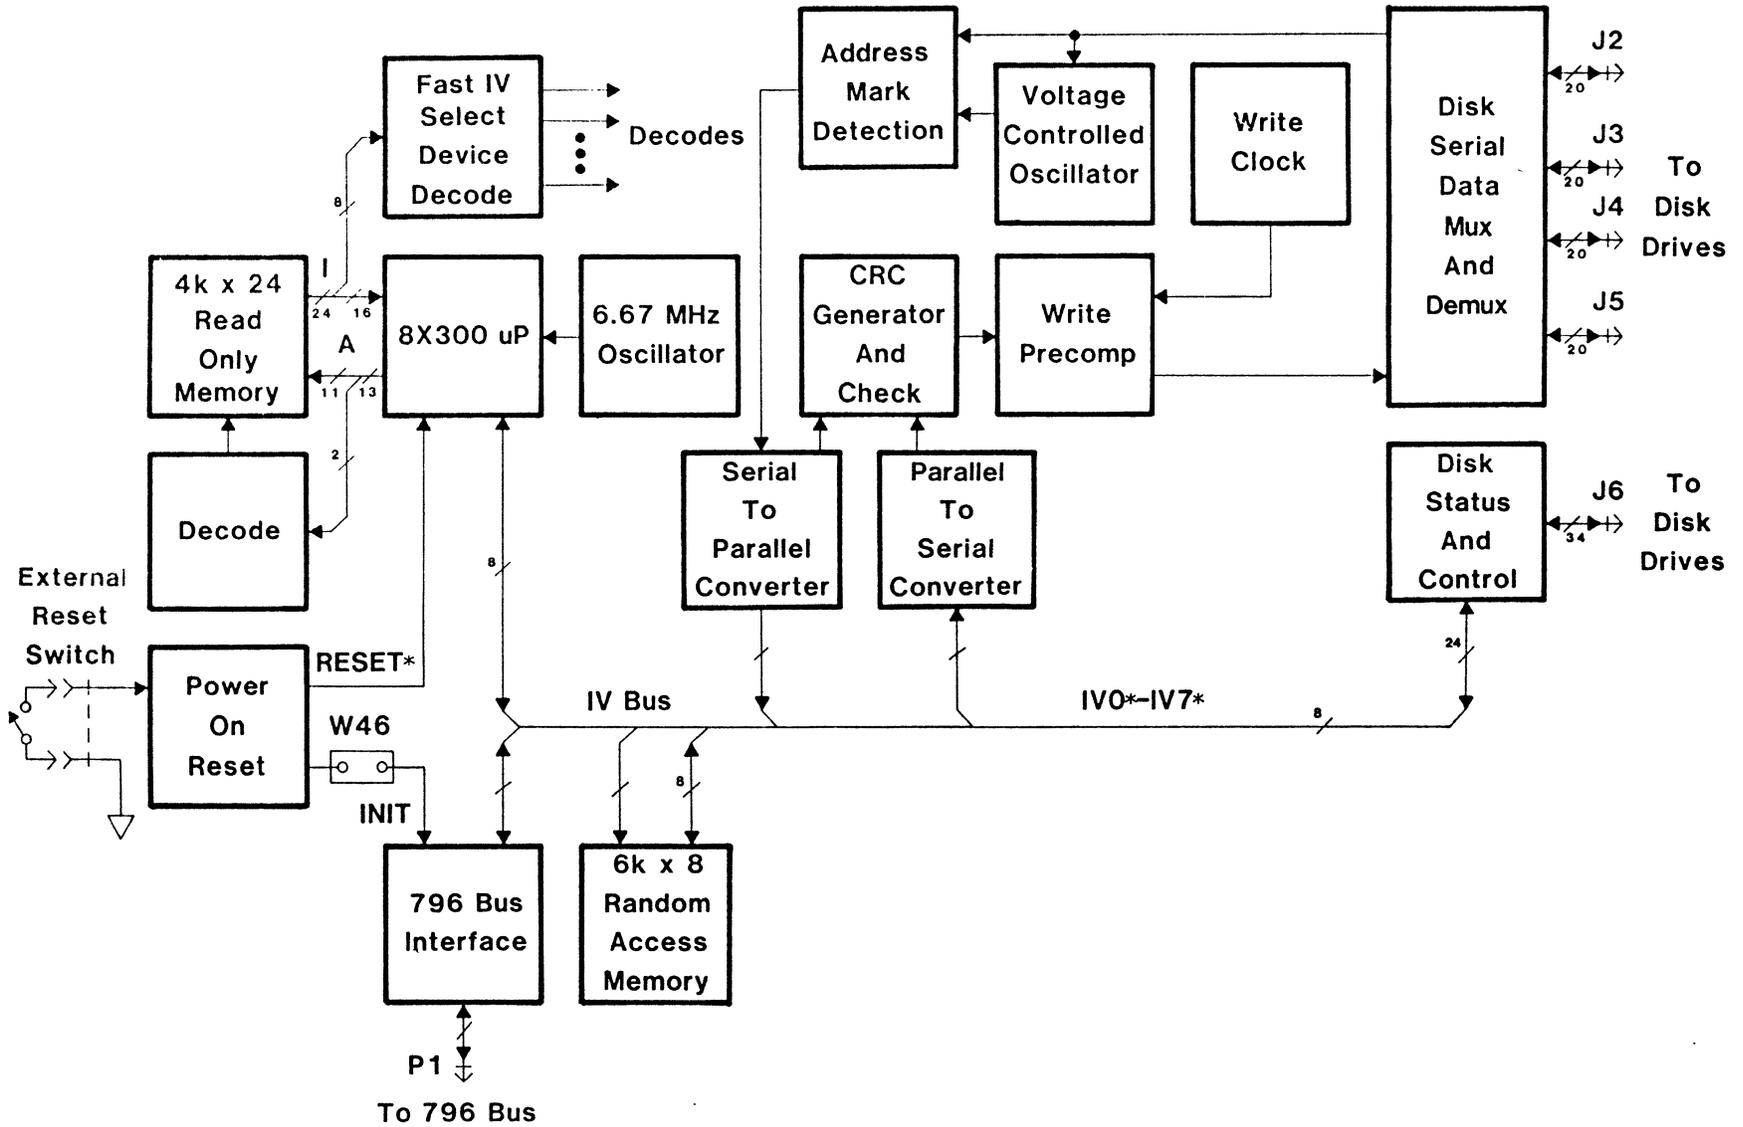
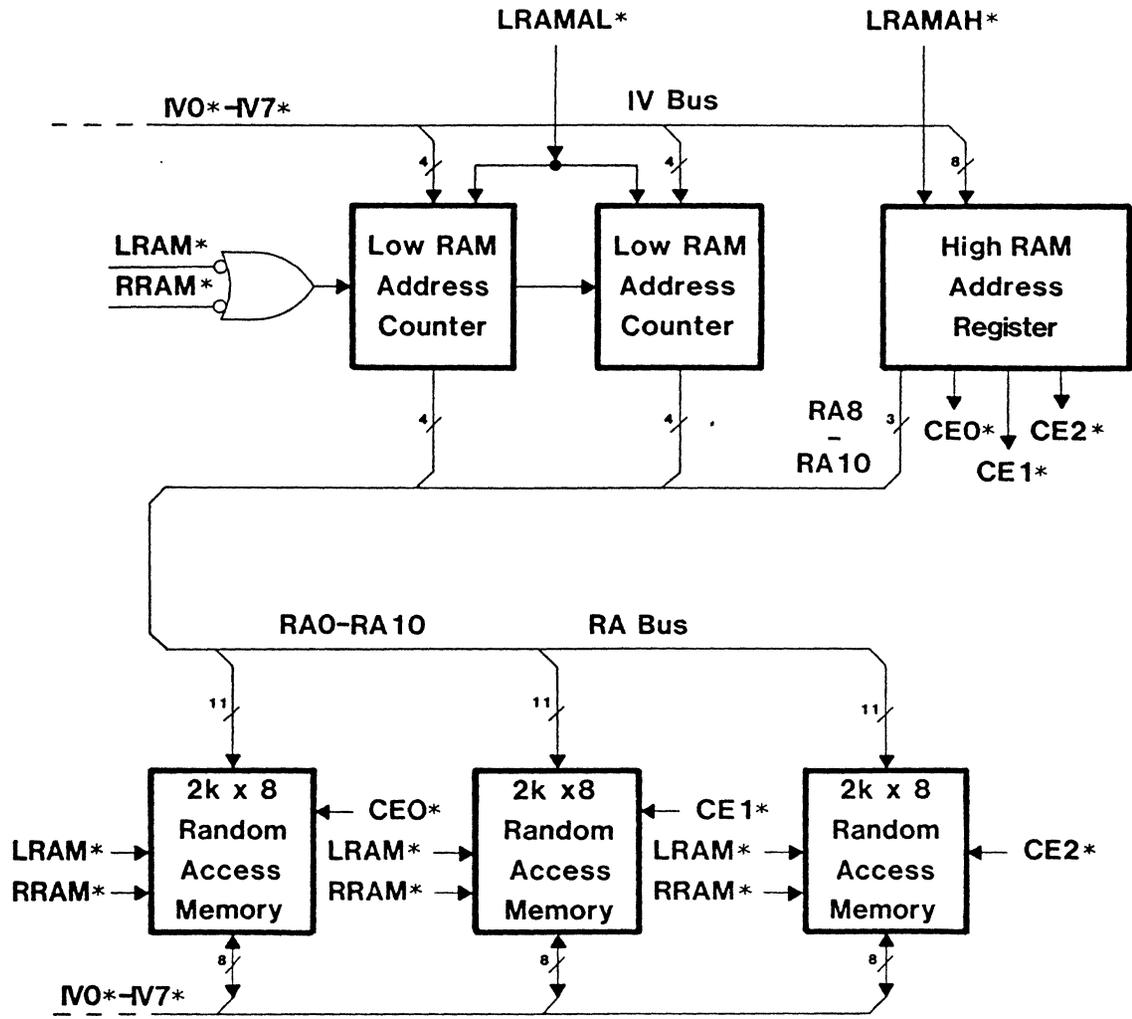

Figure 3-1 – Winchester Disk Controller Block Diagram
Figure 3-2 – Memory Block Diagram
| 2. | PHYSICAL DESCRIPTION | 5 | Figure 3-1 — Winchester Disk Controller Block | |
3.05 Figure 3-1 illustrates the principal sections of the WDC in block diagram. This figure and Figures 3-2 through 3-6 should be used in conjunction with the WDC logic diagram for the descriptions which follow.
3.17 Refer to Figure 3-2 for the description which follows. The contents of the *6k x 8 Random Access Memory* is exchanged as data to the IV Bus, IV0*-IV7*, with one of two instructions: